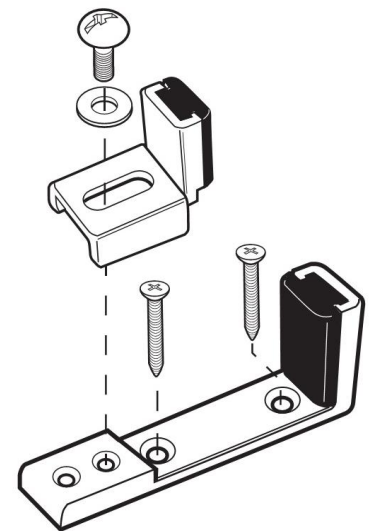

Figure 14A
The Bottom Door guide (V) keeps the door from swinging outward away from the wall. To locate the proper installation position in the floor, slide the door into the closed position and mark the outside edge of the door on the floor. Now place the door into the open position and mark the inside edge of the door on the floor. Make sure your guide location is well marked. Make sure that whether the door is in the open or closed position, that the door NEVER leaves the Door guide. This is the proper location for the Door guide. Set the width of the floor guide to 1 1/2". Slide the door out of the way and place it on the floor in between the 2 marks. Pre-drill holes if necessary for your floor type. Using a drill and the screws provided, secure the Door guide to the floor. **See Figure 14A-14B-14C.**